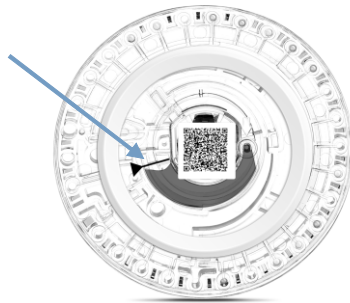

Figure 5-3
- 2) Take care not to overfill the sample chamber. A 90 μ l sample will fill the sample chamber and form a line between the arrow molded on the disc, seeing Figure 5-3. The appropriately value is from 90 to 120 μ l. More than 120 μ l of sample will overfill the chamber. Less than 90 μ l also will affect the test results.